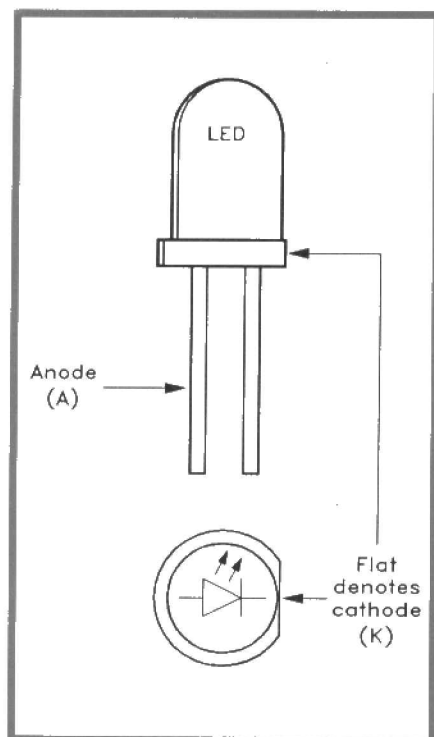

Figure 3. LED (LD1) connections.
b) Next fit the LED, LD1, which is a 'blob' of clear red plastic, with two wires coming out of one end, as shown in Figure 3. It is fitted in the position shown on the guide-sheet, and *must* be connected the right way round – or it will not light up. One side of the LED is flattened (the lead on this side of the LED is known as the cathode (K), while the lead on the other, rounded, side is called the anode (A)). Make sure that the LEDs are fitted so that the 'flattened' sides line up with the drawing of the LED printed on the guide-sheet.